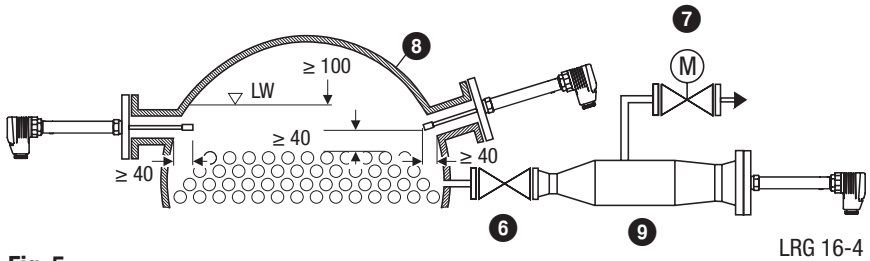

Fig. 5
- Leave a distance of approx. ≥ 1.57 in (≥ 40 mm) between the lower end of the measuring electrode and the boiler wall, the smoke tubes, any other metallic fittings, and the low water level (LW), see installation example in **Fig. 5**